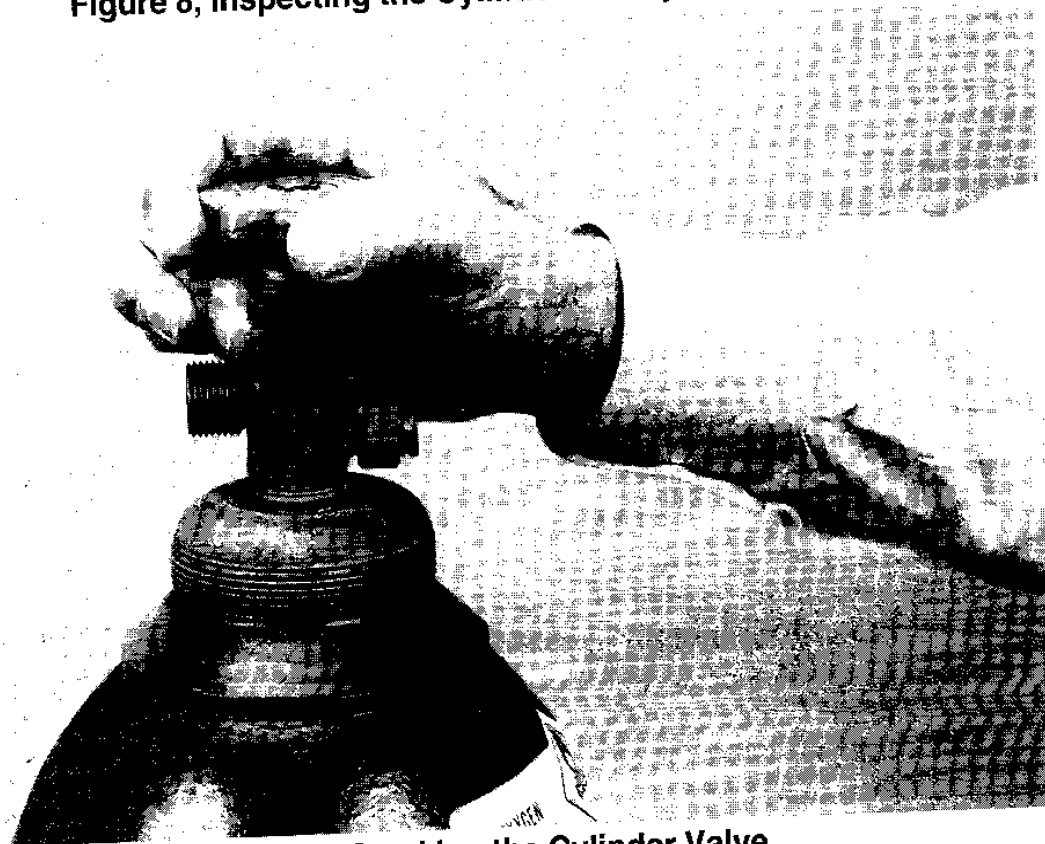

Figure 9, Cracking the Cylinder Valve
2. Momentarily open and close (called “cracking”) the cylinder valve. This dislodges any loose contaminant that is present (see Figure 9, page 18).
⚠CAUTION Open the cylinder valve only slightly. If the valve is opened too much the cylinder could tip over. When “cracking” the cylinder valve, DO NOT stand directly in front of the valve. Stand behind or to one side (see Figure 9, page 18). Crack the cylinder valve only in a well ventilated area. If an acetylene cylinder sprays a mist when it is cracked, let it set for 15 minutes. Then try to crack the cylinder valve again. If the problem persists, contact your gas supplier.